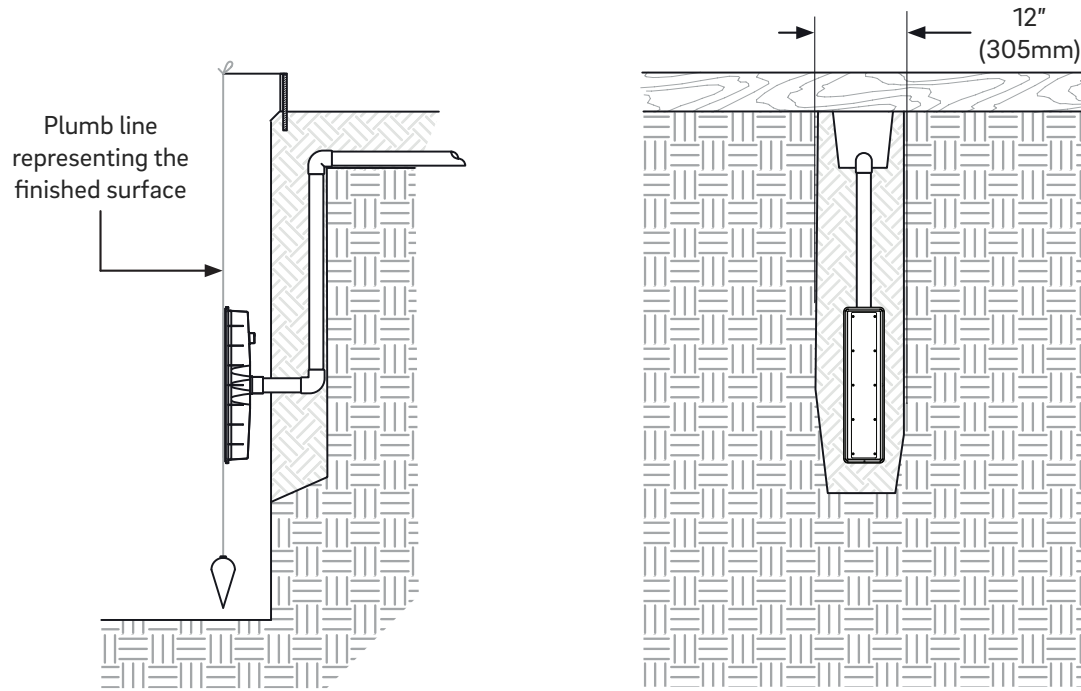
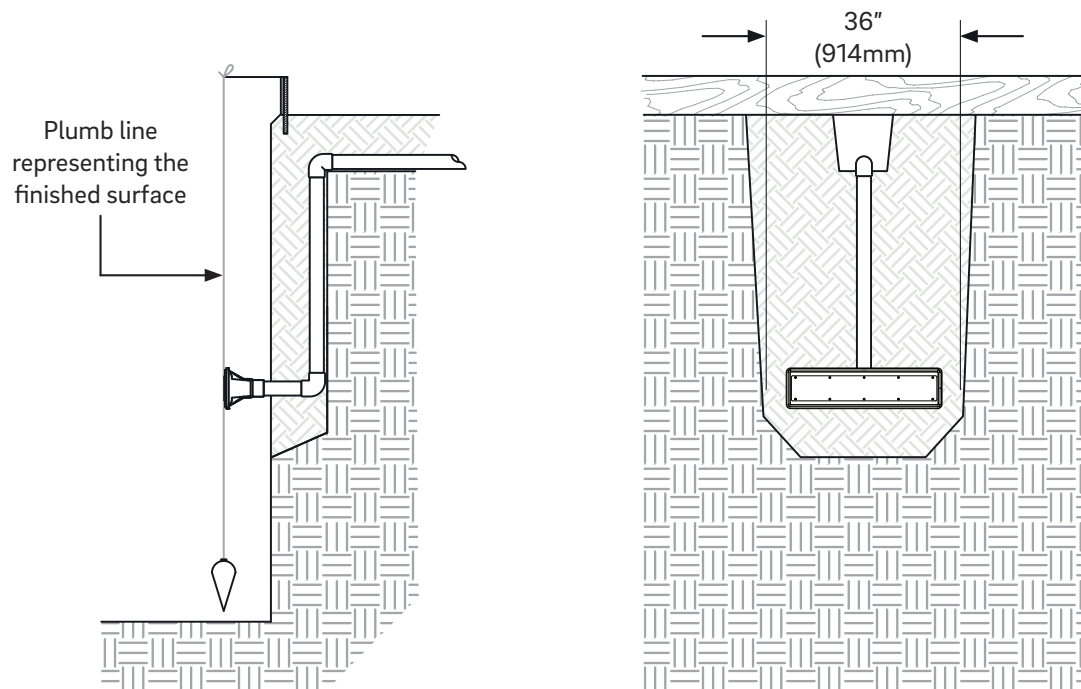

Figure 14
Figure 15
3. Dig a niche down the wall of the pool at the desired location of the AVSC drain. The niche must be at least 12 inches wide (Figure 14) for a vertical alignment and at least 36 inches wide (Figure 15) for horizontal alignment.